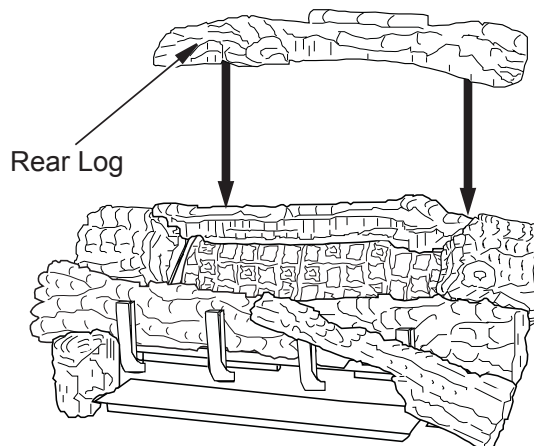

Figure 36 - Installing Rear Log
9. Rest rear log in back corner sections of chassis assembly as shown in **Figure 36**.